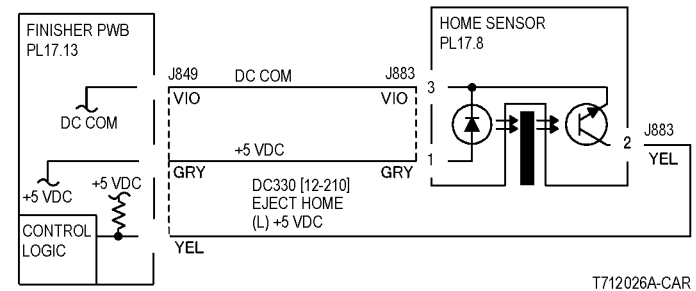

Figure 2 Eject Clamp Home Sensor
- Ensure that the connectors shown in the circuit diagrams (Figure 2, Figure 3) are securely connected and that the wires are not damaged.